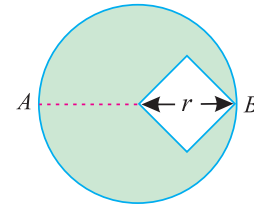

Fig. 6.22.
**Example 6.12.** A square hole is punched out of circular lamina, the diagonal of the square being the radius of the circle as shown in Fig.6.22. Find the centre of gravity of the remainder, if  $r$  is the radius of the circle.